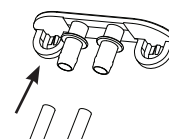

Figure 7
11. Remove the plugs and allow the water to completely drain. See figure 7.
12. Once water stops flowing, re-insert the drain plugs. See figure 7.